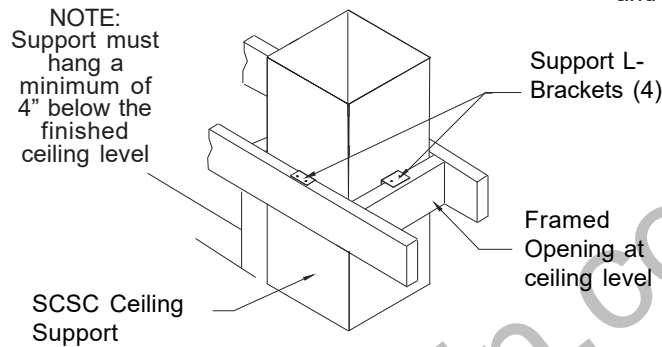

Figure 10a
1. The Ceiling Support must be installed so that it hangs a minimum of 4" (102 mm) below the finished ceiling level (see Figure 10a).